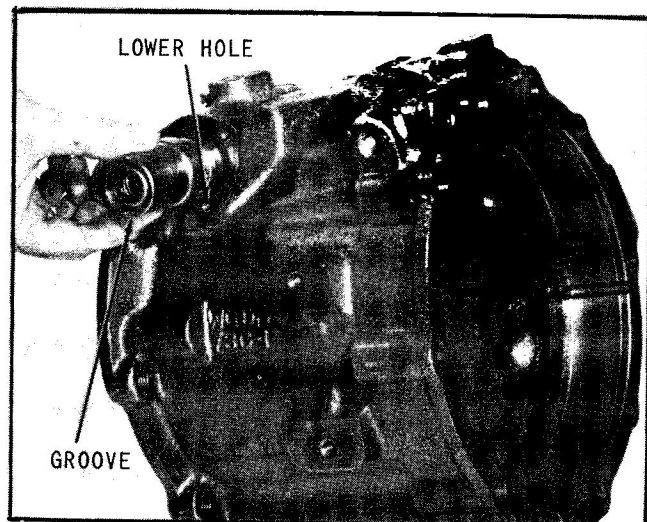

Fig. 34 Install Valve Assembly in Case
2. Install the rubber "O" ring in groove of shift valve and install valve into bore of transmission case, aligning groove in end of valve with lower valve cover bolt hole, (Fig. 34).